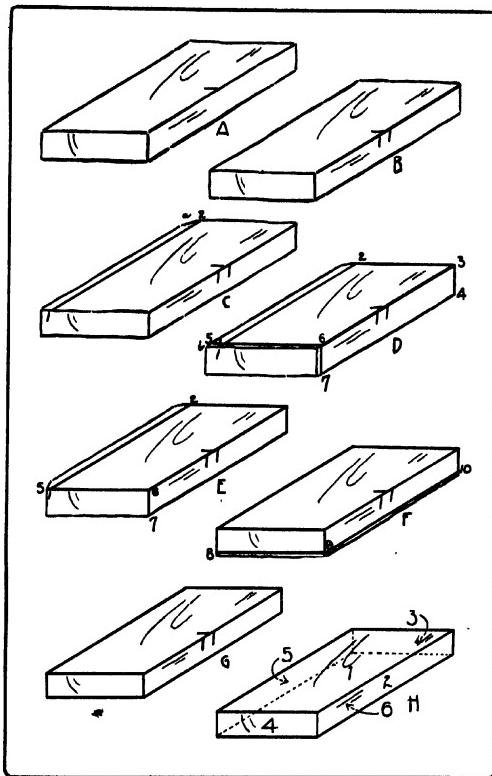

Fig. 103. The Order of Planing a Board.
1. Working face. Plane one broad side flat and smooth. Finish with the plane set to cut fine shavings. Test with try-square. Mark this face with a distinct pencil mark, A, Fig. 103.
2. Working edge. Plane one narrow side straight and square with the working face. Test with try-square, pressing the block of the try-square against the working face. Mark the working edge with two distinct pencil marks, B, Fig. 103.
3. End. First mark the width on the working face with the marking-gage, C, 1-2, Fig. 103. Chisel off the corner, a, of the piece outside this gaged line. True and smooth this end with the plane, making it square with both working face and working edge, D, 2, 3, 4, Fig. 103.
using a sharp knife point and the try-square. Saw just outside this line, D, 5-6-7, with the back-saw, cut off the narrow corner, D, b, beyond the gaged line and plane true, E, Fig. 103.
5. Width. Plane to the center of the gaged line, E, 1-2. Test this edge from the working face, F, Fig. 103.
6. Thickness. Mark the thickness with the marking-gage all around the piece, F, 8-9-10. Plane to the center of the gaged line, G, Fig. 103. Test this face for flatness.
In a word, the order to be followed is graphically represented in H, Fig. 103. The surfaces are numbered consecutively in the order in which they are to be planed.
By planing the ends before the width is planed, the danger of splitting off fragments can be avoided by chiseling the corner of the unfinished edges, C, *a*, and D, *b*, Fig. 103, into a buttress. By planing the ends and the width before the thickness is planed, a dressed face is secured all around for gaging the thickness. In following this order all measurements and markings are made on a dressed face.